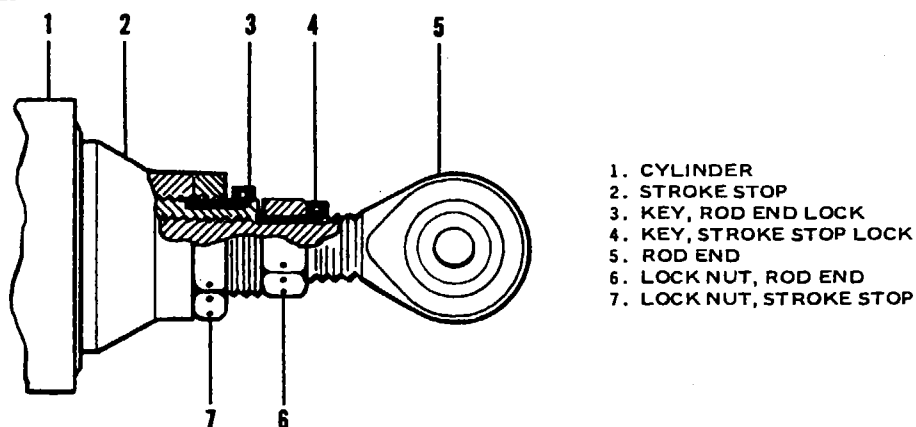

Figure 7-8. Actuator Cylinder Lock Installation
o. Extend gear and as side braces approach the locked position, exert a side force inboard on the wheel so that the hydraulic actuator must force the linkage into the locked position. Adjust the stroke control stop (59) on the lower end of the actuator to stop the piston travel at this point. Repeat several times to determine that the stroke control is properly adjusted.
p. Back off stroke stop one-half turn and tighten locknut on stop. (Refer to Figure 7-8.)